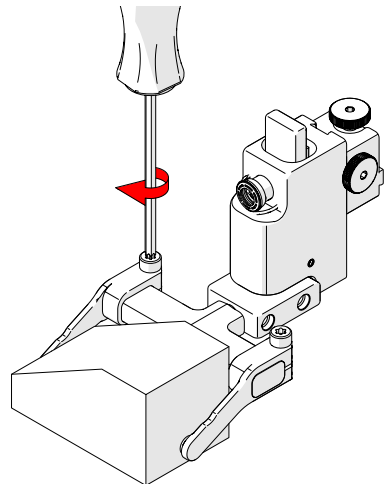

Fig. 132 - Tighten arm clamp screw
5. Mount the probe holder arm on the yoke and tighten the arm clamp screw (Fig. 132).